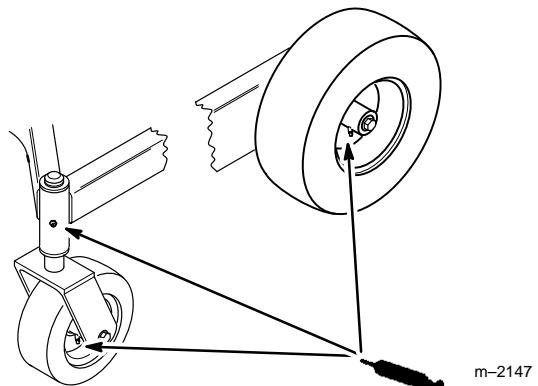

Figure 25
1. Lubricate the wheel bearings and front spindles until grease begins to ooze out of the bearings (Fig. 25).